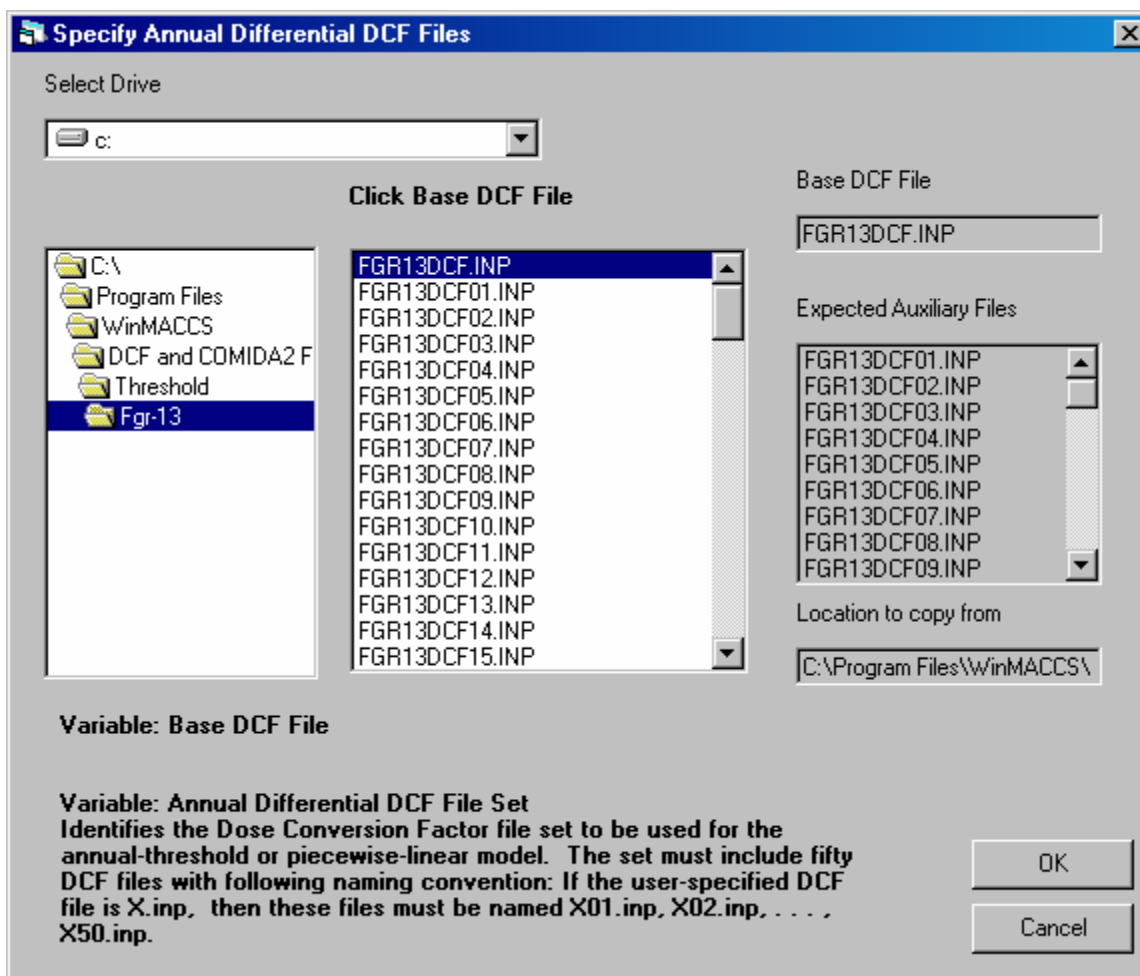

Figure 50 Threshold DCF Files
3. Select the base DCF file in the box directly under the title *Click Base DCF File*. In the example shown in Figure 50, the name of the file is FGR13DCF.inp. The base file name is copied in the box labeled *Base DCF File*. Other file names are generated given this base file following the algorithm of appending the year number to the file name. WinMACCS expects these additional files to be present in the current directory.